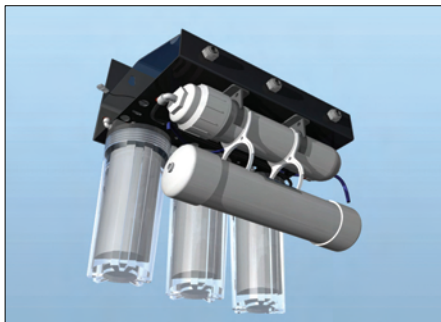

Figure 18: Step 2 - removing the DI module from the clamps
1. Disconnect the tubing from each end of the Aquathin De-ionization (DI) Module.
2. With the DI module free of its connections, it can now be removed from the two “Double C” clamps. (Figure 18). *Note the direction of the “ F L O W ” arrow. The new DI module must have the same orientation.*